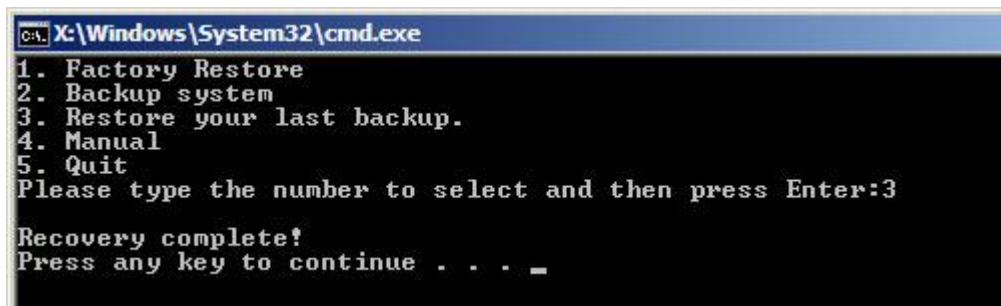

Figure A-32: Restore System Backup Complete Window
**Step 3:** The screen is shown as in **Figure A-32** when backup recovery is completed. Press any key to reboot the system.